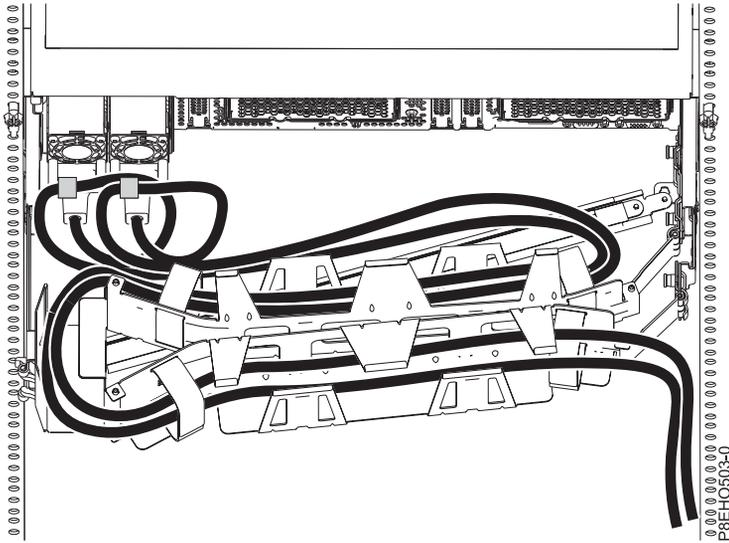
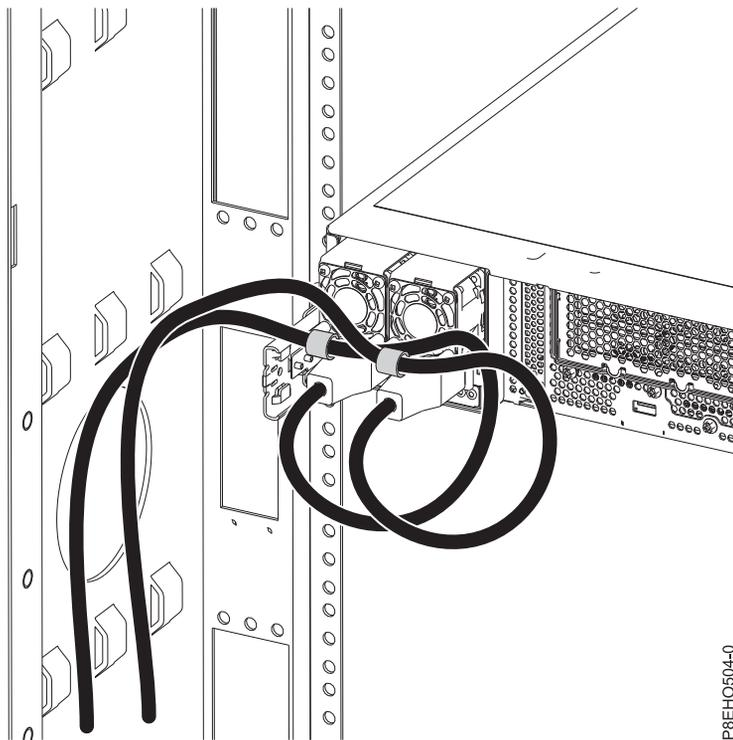

Figure 64. Power cord loop with cable management arm routing. The power cord loops counter-clockwise to the right.
Figure 65. Power cord loop with sidewall routing. The power cord loops counter-clockwise to the left.
3. Disconnect the power cords from the power supply handle. Unfasten the hook and loop fastener that ties the power cord to the power supply handle. Note how the power is looped; you will need to make that same loop when you reattach the power cords. There are two types of loops, detailed in Figure 64 on page 81 and Figure 65 on page 81.